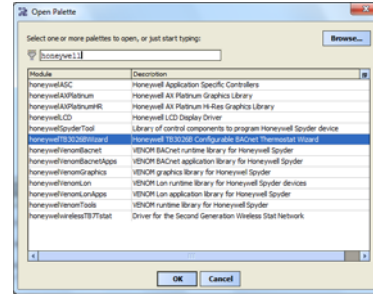

Fig. 24. Adding 'honeywellTB3026BWizard' to BACnet Network
- An 'Open Palette' window will open. Find a module named 'honeywellTB3026BWizard' as shown in Figure 24, Select it and click 'OK' button to add into the Palette.